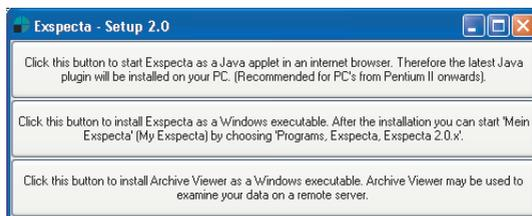

Figure 2.2: Selecting the installation mode from CD-ROM
- Insert the CD-ROM into the drive. Usually it will start automatically showing a dialog as shown in figure 2.2.
- Choose the upper button. If necessary the Java 2 plugin will be installed then. Follow the instructions on the screen (you can always choose standard options). After successful installation your standard browser will be started automatically and the applet for searching devices will be launched. Proceed as described in section 2.3 beginning with item 5.
Start the setup by inserting the CD and choosing the second button on the initial dialog (figure 2.2). Follow the instructions on the screen. The program 'Mein Exspecta' (My Exspecta) will be installed as well, so that it is even possible to adjust the IP addresses without browser support.
Start the setup by inserting the CD and choosing the third button on the initial dialog (figure 2.2). Follow the instructions on the screen.